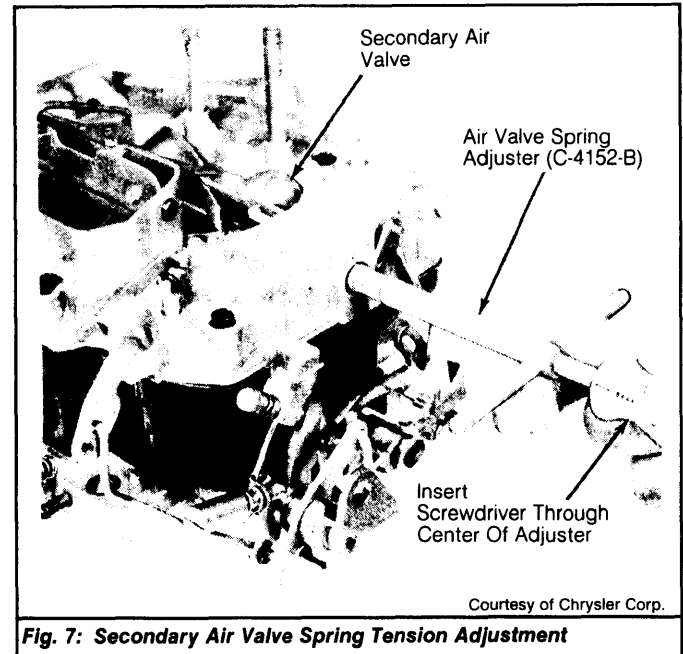

Fig. 7: Secondary Air Valve Spring Tension Adjustment
1) Loosen air valve lock plug. Turn air valve adjustment plug clockwise. This allows air valve to move to wide open position. See Fig. 7.